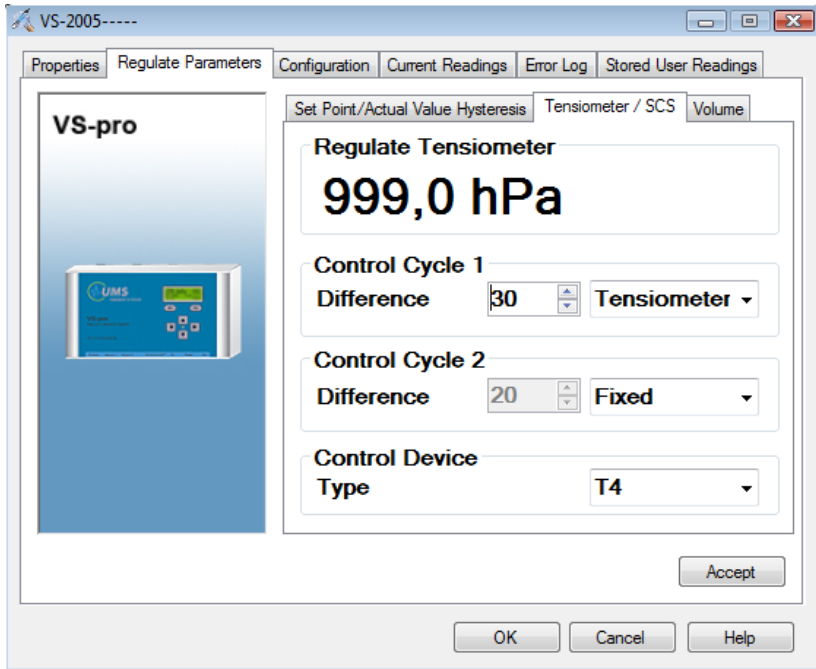

Fig. 4.4 Tensiometer / SCS
- set to Tensiometer (as shown in fig. 4.4 for circuit 1)